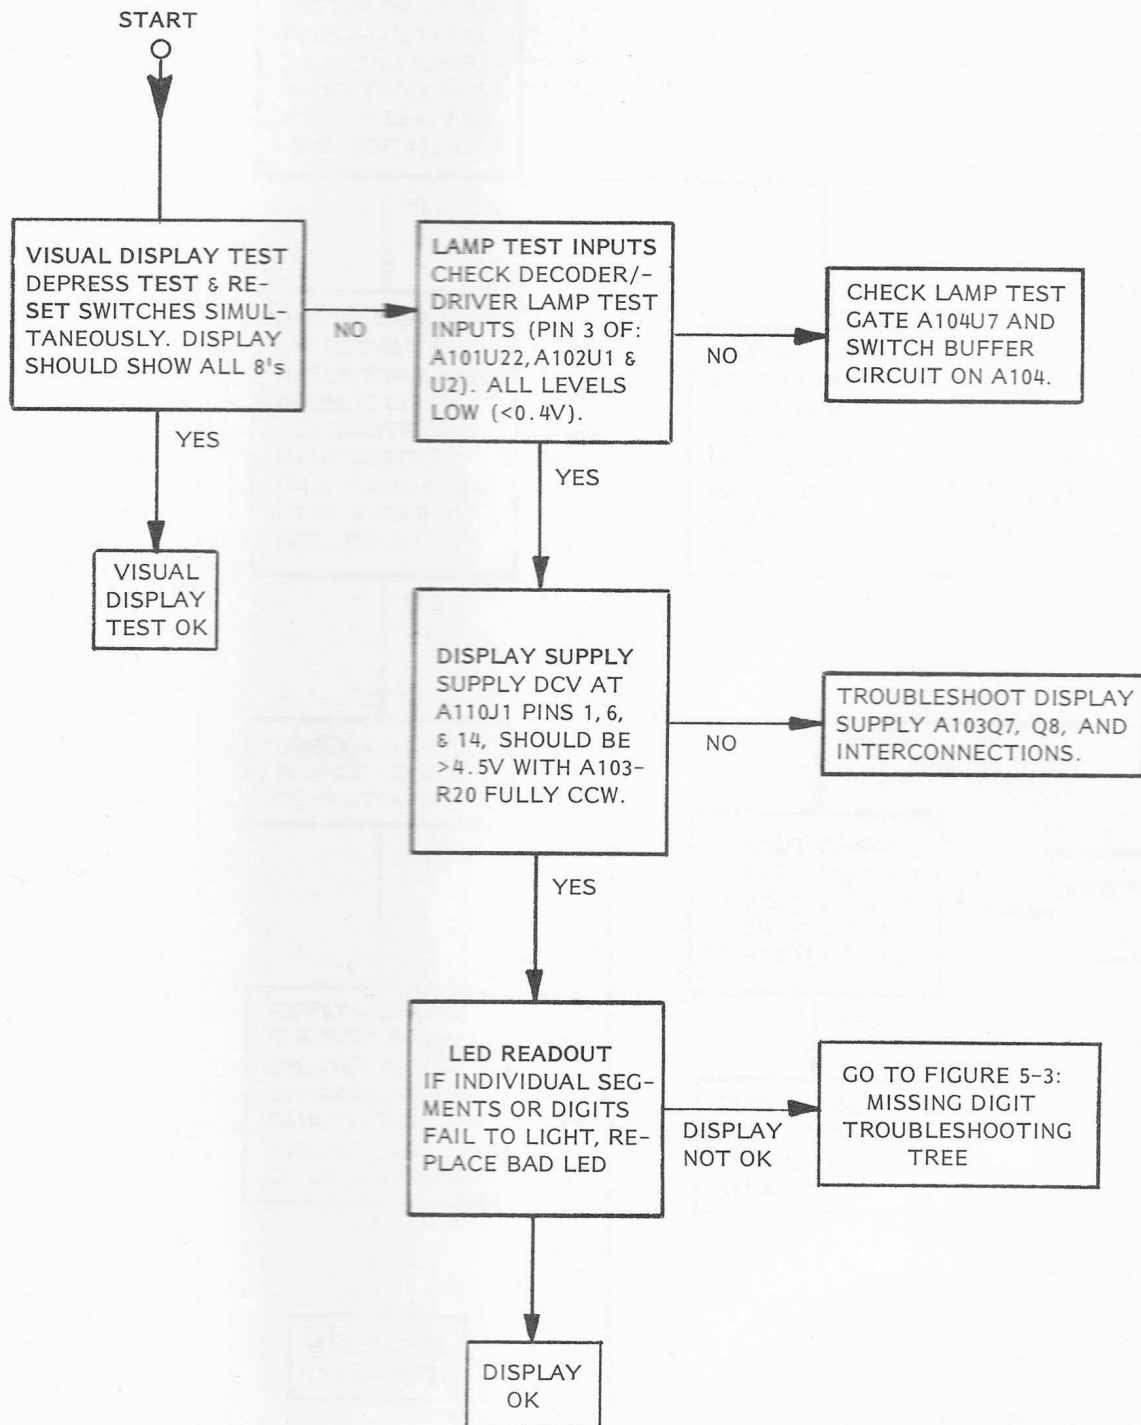

FIGURE 5-2
- f. If counter fails the Visual Display Test, refer to Troubleshooting Tree - Figure 5-2. If counter displays all eights but a digit is missing, refer to Figure 5-3. If the display does not show all zeros when it should, refer to Figure 5-4.